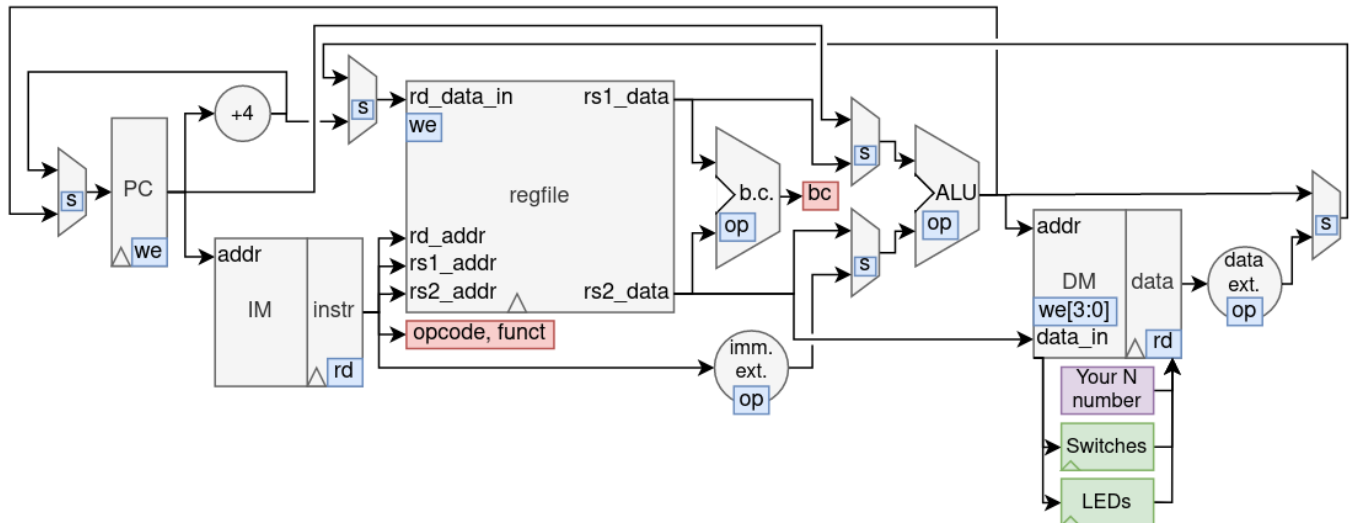

Fig. 1: NYU-6463-RV32I Processor. Suggested control signals (from FSM) in blue, status signals (to FSM) in red.
The processor comprises the following components. An example datapath is presented in Fig. 1 (on the next page).
- a. Your complete design datapath (e.g. your version of Fig 1.)